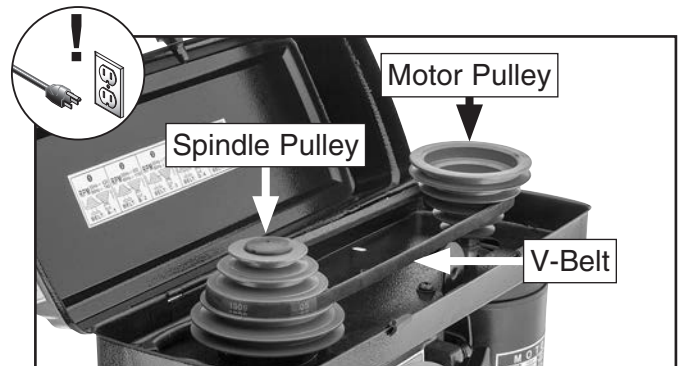

Figure 19. V-belt components.
6. Move V-belt onto desired sheave on motor and spindle pulleys (see **Figure 19**).